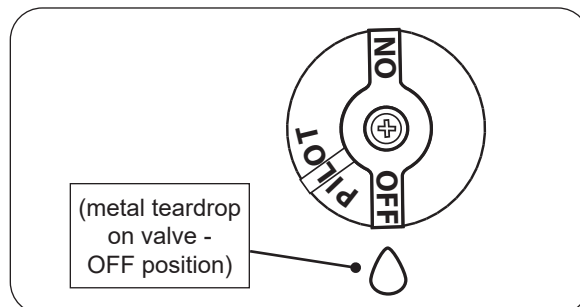

Fig. 27-2 Pilot shut down
2. Locate the valve on the side of the unit. Push in the gas control knob slightly and turn clockwise to **OFF** (see Fig. 27-2).
Push in the control knob slightly and turn clockwise to **OFF**. Do not force. See Fig. 27-2.